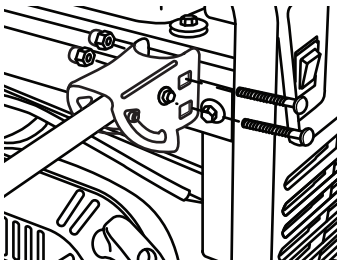

FIGURE 12: Handle Bracket to Frame
2. Hold handle bracket over pre-drilled holes on frame as shown in Figure 12.